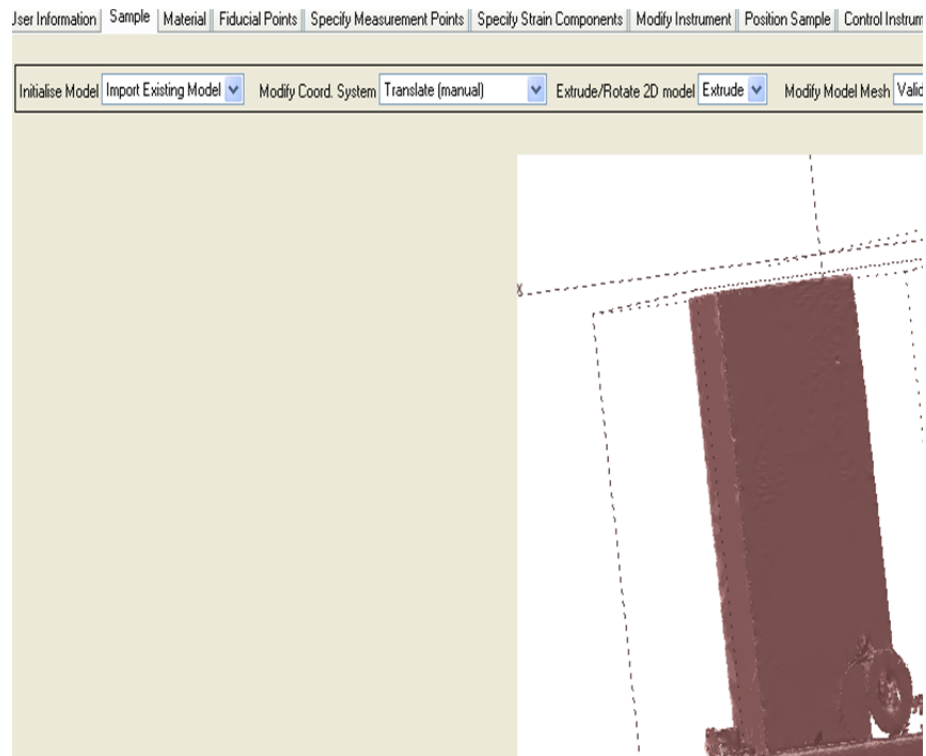

Figure B-13. SScanSS Import Existing Model
20. Once in SScanSS you must import the existing model (Figure B-13).